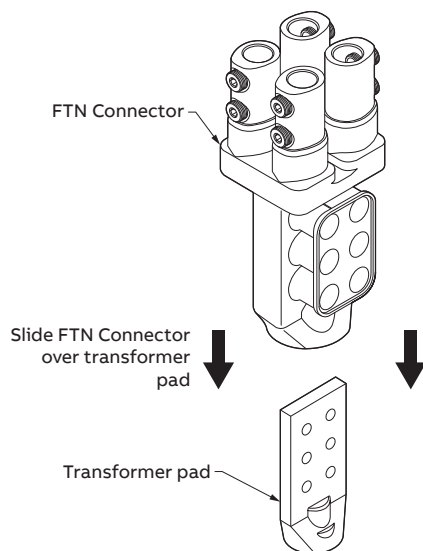

Figure 1
1. Install by sliding FTN connector over NEMA six hole transformer pad (Figure 1).